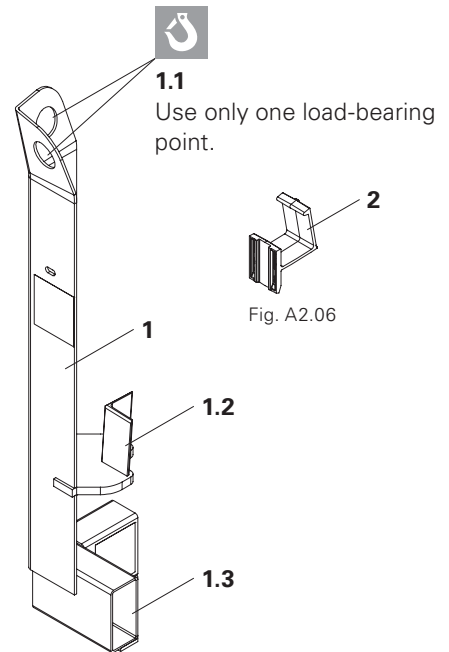
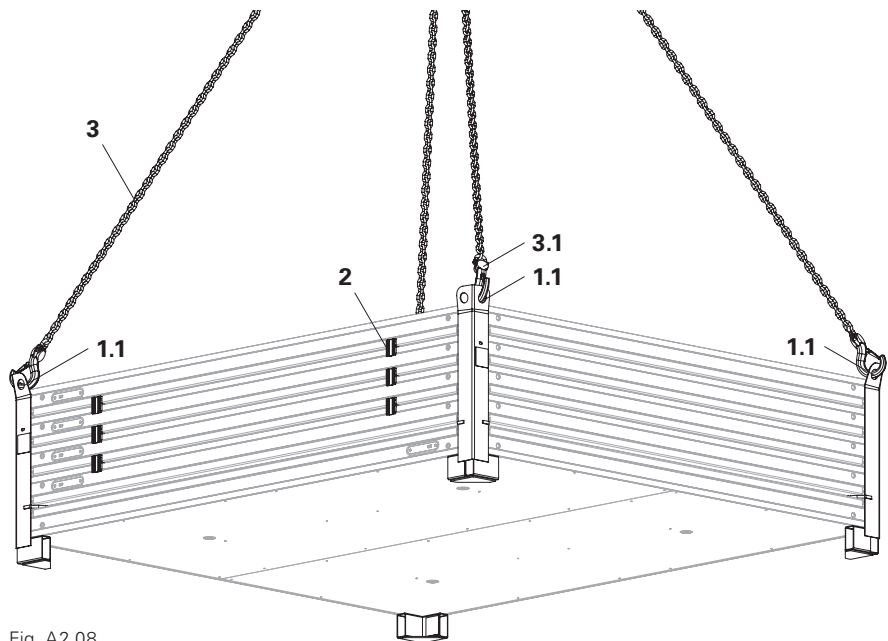

Fig. A2.05
Fig. A2.08
→ Four load-bearing points (1.1) (Fig. A2.08)
- Stacking Devices MX (1) (Fig. A2.05)
Unload the stacks with the crane using a lifting gear combi **(3)** or 4-sling lifting gear. (Fig. A2.08)
(Fig. A2.05 + Fig. A2.08)